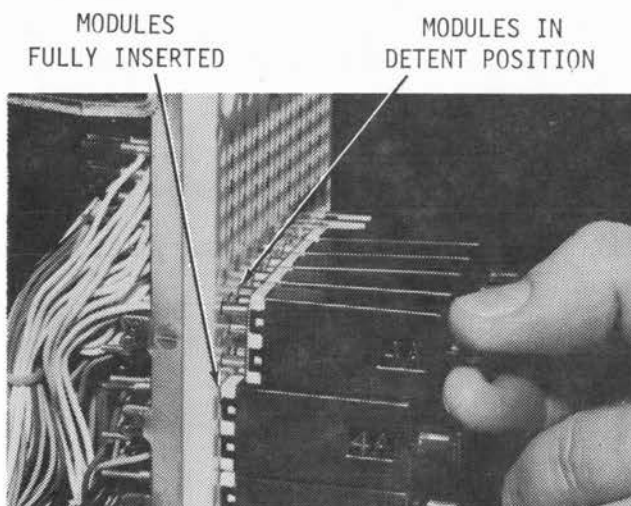

Figure 3
3.03 When the connector modules are fully inserted (see figure 3) into the connector base, the outside plant and central office equipment are connected. The grounding pin is connected to provide continuity through the connector base mounting bar and inter-connector ground straps to the copper ground bar at the base of the main distribution frame.
3.04 When the connector module is pulled out to the detent position (see fig. 3), the central office equipment is disconnected from the outside plant cable pairs. In the detent position, protection is provided only for the outside plant cable pair.